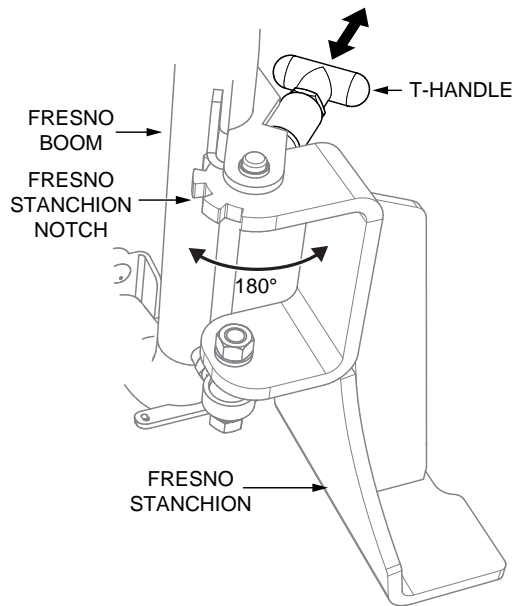

Figure 33. Boom Adjustment (Side-To-Side)
1. Pull the T-handle (Figure 33) to release the boom from its locked position.